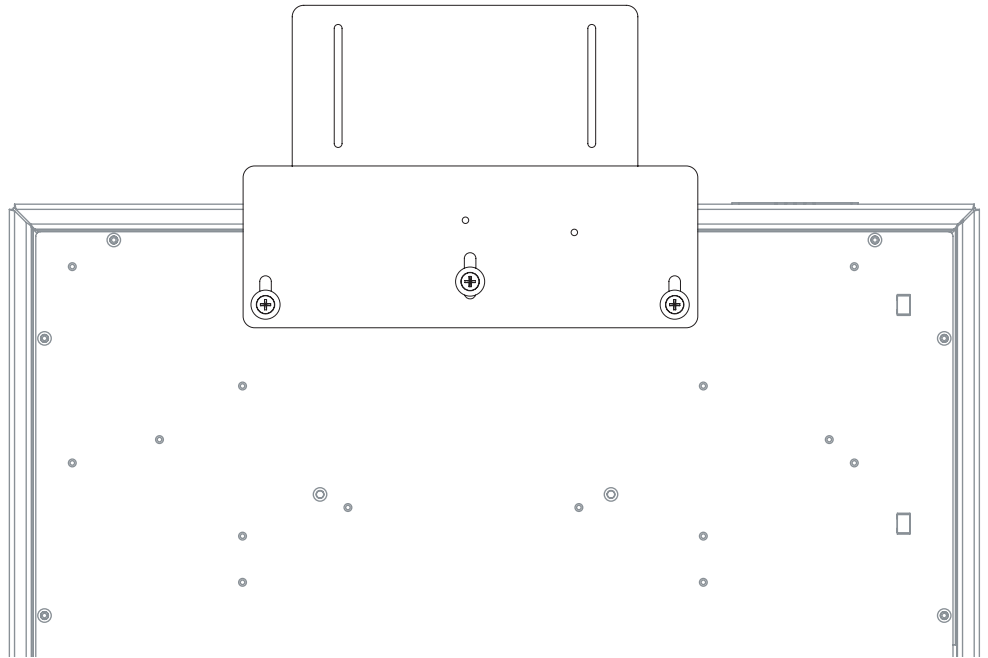

Figure 3-9. Projector with Whitney (Prismatic) Lens Base Plate - Bottom View
2. Secure the CineWide base plate and Ceiling Mount Plate (if used) to the projector with the three, M4 x 0.7 x 14mm screws provided with the CineWide lens base plate. See Figure 3-9.